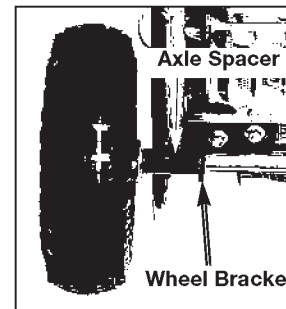

Figure 7
- Slide one axle spacer (11) down against the wheel (15).
- Slide the axle (16) through the holes in the wheel brackets (3).
- Install the second axle spacer (11) then the second wheel (15) with the extended hub facing inward. See Figure 7.